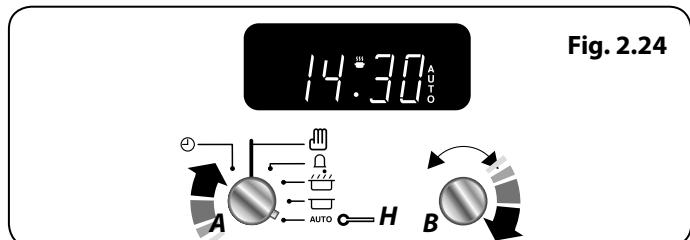

Fig. 2.24
3. Continue to turn the **Adjusting (B)** knob to the amount of time required e.g. 1 minute. The display will show the current time plus the required length of time you have set (Fig. 2.24).
4. Turn the **Timer (A)** knob to the **Auto (H)** setting. The display will show the current time, the Cooking symbol and the word '**AUTO**' (Fig. 2.24).